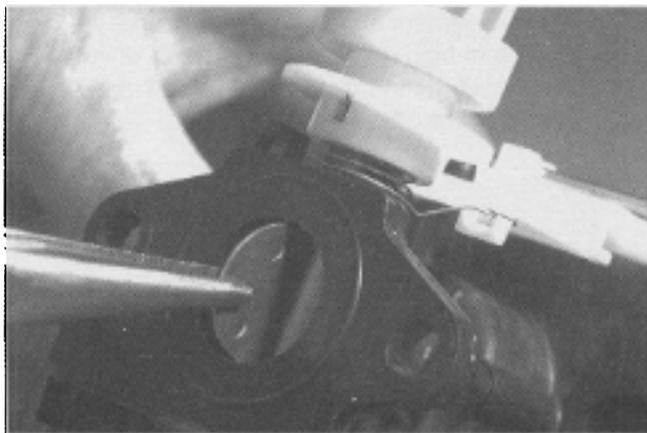

Figure 35
1. At the throat of the carburetor, using a needle nose pliers, gently pull the throttle plate out of the air vane assembly shaft (**Figure 35**). Notice the orientation of the small protrusions on the throttle plate as you pull it out. The single protrusion should be on your left; next to the hole at the 9 o'clock position).